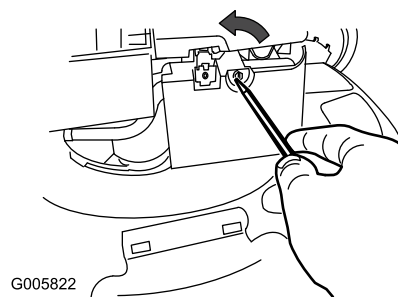

Figure 30
1. Use a screw driver to open the air-filter cover (Figure 30).